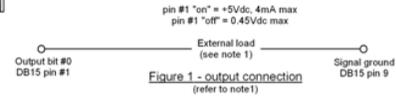

Figure 1 - output connection (refer to note 1)
3. Refer to figures 1 & 2 for examples of connecting external devices to the GPIO.